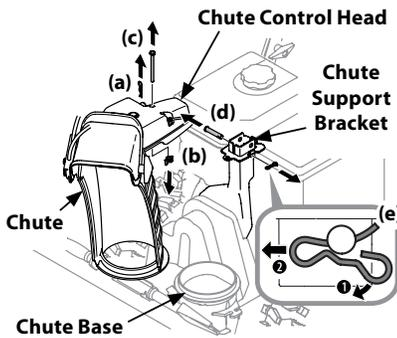

Figure 2-19
1. Remove hairpin clip (a), wing nut (b) and hex screw (c) from chute control head and clevis pin (d) and bow-tie cotter pin (e) from chute support bracket. See Figure 2-19.